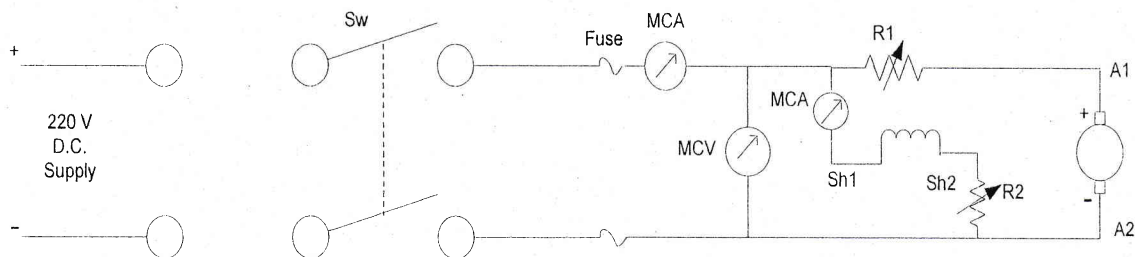

Fig. 1 Circuit diagram for Swinburne's Test
1. Connect the D.C. motor as shown in the circuit diagram Fig. 1.